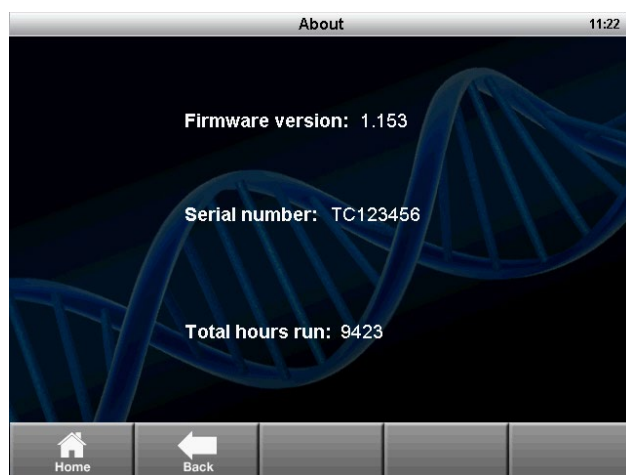

Fig. 28. The About screen.
2. Select **About** (Figure 28).